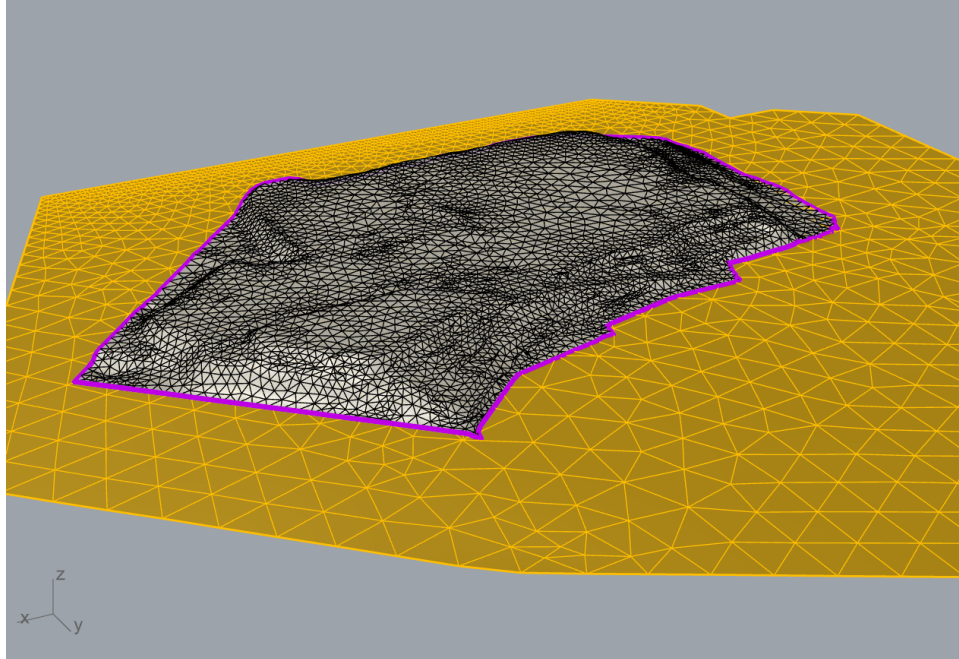

Figure 79: Selecting the mesh boundary to extend
17. Use **GExtend** (🔲) → *ExtendToMesh* with the following parameters: *Direction = AlongVector*, *TrimExtension = Yes*, *MinTolerance = 0.001* and *MaxTolerance = 0.01*. Select the “Dump” mesh as the target and the “IniTopo” mesh as the base. The mesh boundary will be highlighted in magenta; select the whole boundary (**Ctrl+A**) and press **Enter** (Figure 79). Use 0,0,0 as the start of the extension vector, and 0,0,-1 as the end to extend the mesh boundary straight down.